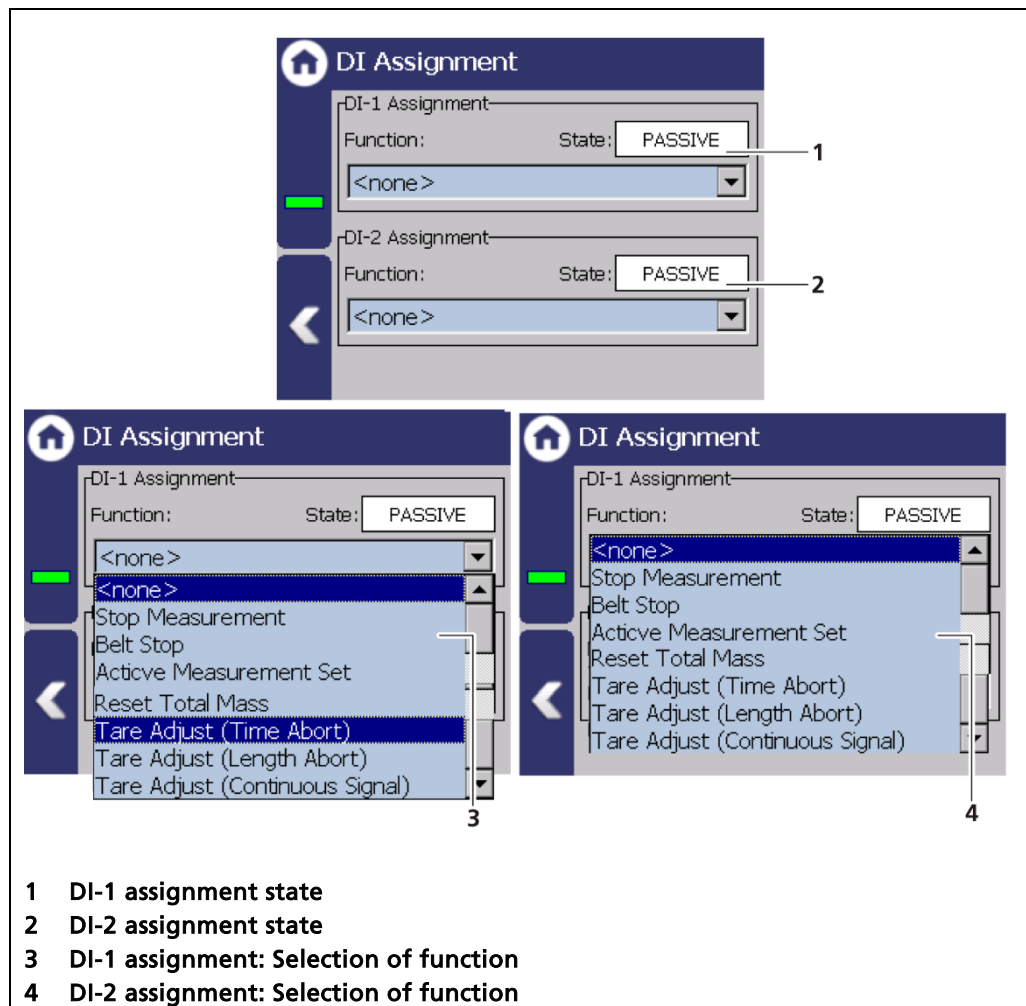

Fig. 109 DI inputs assignment
In the condition "ACTIVE" (Fig. 109, item 1, item 2) the selected function is carried out. The active condition is created by closing the digital input.